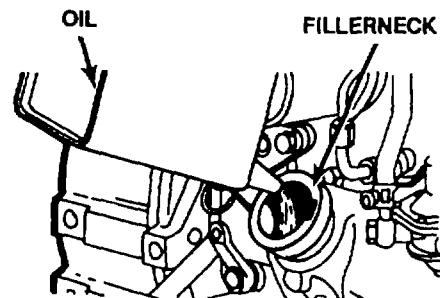

Figure 3-16. Filler Neck
- b. Add oil, as necessary, through the oil filler (figure 3-16).